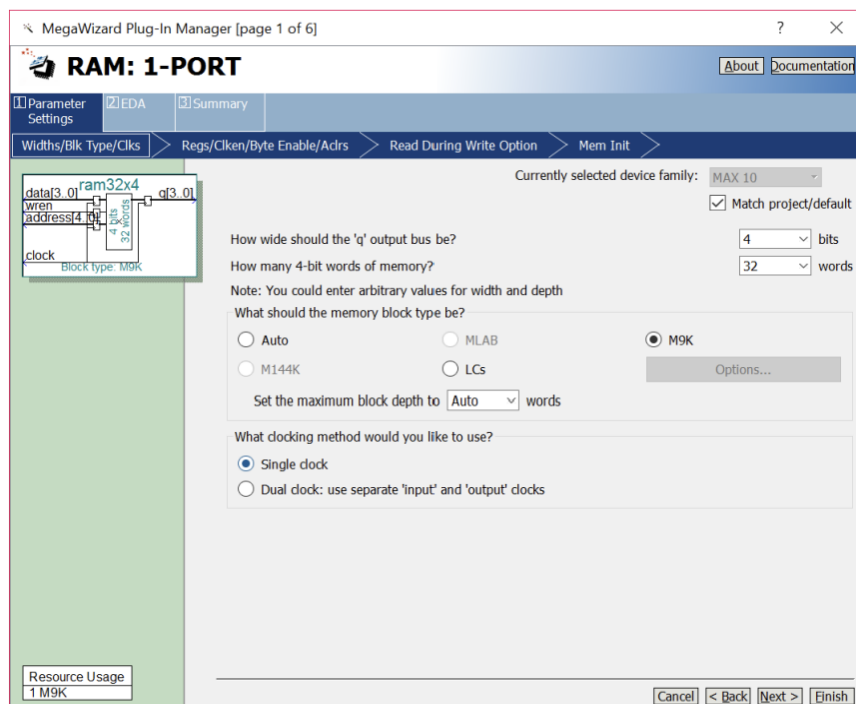
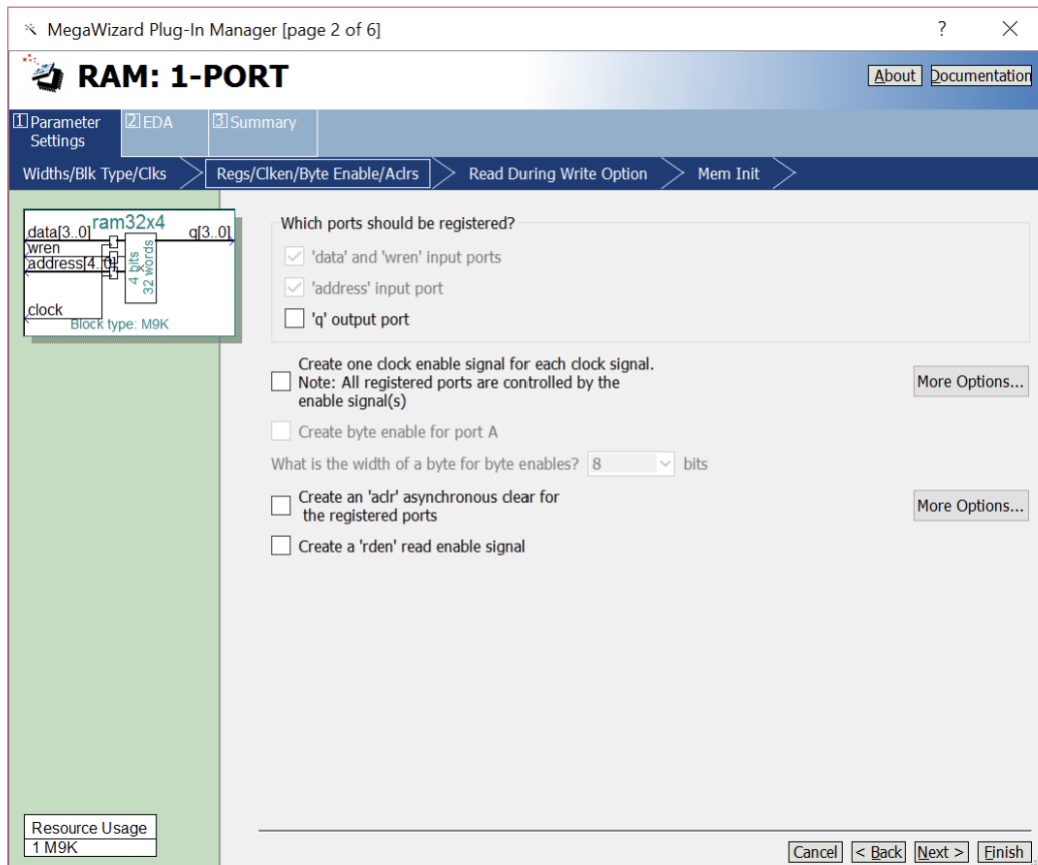

Figure 2: Configuring the size of the memory module.
Figure 3: Configuring input and output ports.
2. To open the IP Catalog in the Quartus software click on Tools > IP Catalog. In the IP Catalog window choose the RAM: 1-PORT module, which is found under the Basic Functions > On Chip Memory category. Select Verilog HDL as the type of output file to create, give the file the name ram32x4.v, and click OK. As shown in Figure 2 specify a memory size of 32 four-bit words. Select M9K if your DE-series board has a MAX 10 or Cyclone IV FPGA, otherwise select M10K. Also on this screen accept the default setting to use a single clock for the memory's registers, and then advance to the page shown in Figure 3. On this page deselect the setting called 'q' output port under the category Which ports should be registered?. This setting creates a RAM module that matches the structure in Figure 1b, with registered input ports and unregistered output ports. Accept defaults for the rest of the settings in the Wizard, and click the Finish button to exit from this tool. Examine the ram32x4.v Verilog file which defines the following subcircuit: